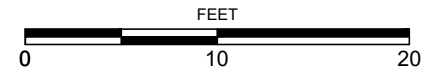

FIGURE 2
Building materials that were sampled and analyzed for the presence of asbestos in this survey are presented in the attached Table 1, and the locations from which bulk asbestos samples were collected during this survey are shown on Figure 2. Copies of the laboratory analytical report and chain-of-custody records for this survey are presented in Appendix B.
Appendix D. Fifty-seven (57) XRF readings (including calibration checks) were collected during the survey. Building components that were tested for the presence of lead during this survey are presented in the attached Table 3. The XRF testing orientation (A, B, C, and D wall orientations) used during the testing is depicted on Figure 2. A copy of CDPH Form 8552 “Lead Hazard Evaluation Report” for the subject building is included in Appendix D.